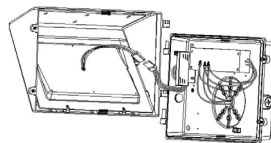

Fig. 8
10. Install the cover of the fixture and connect the terminal block. (Fig. 8)